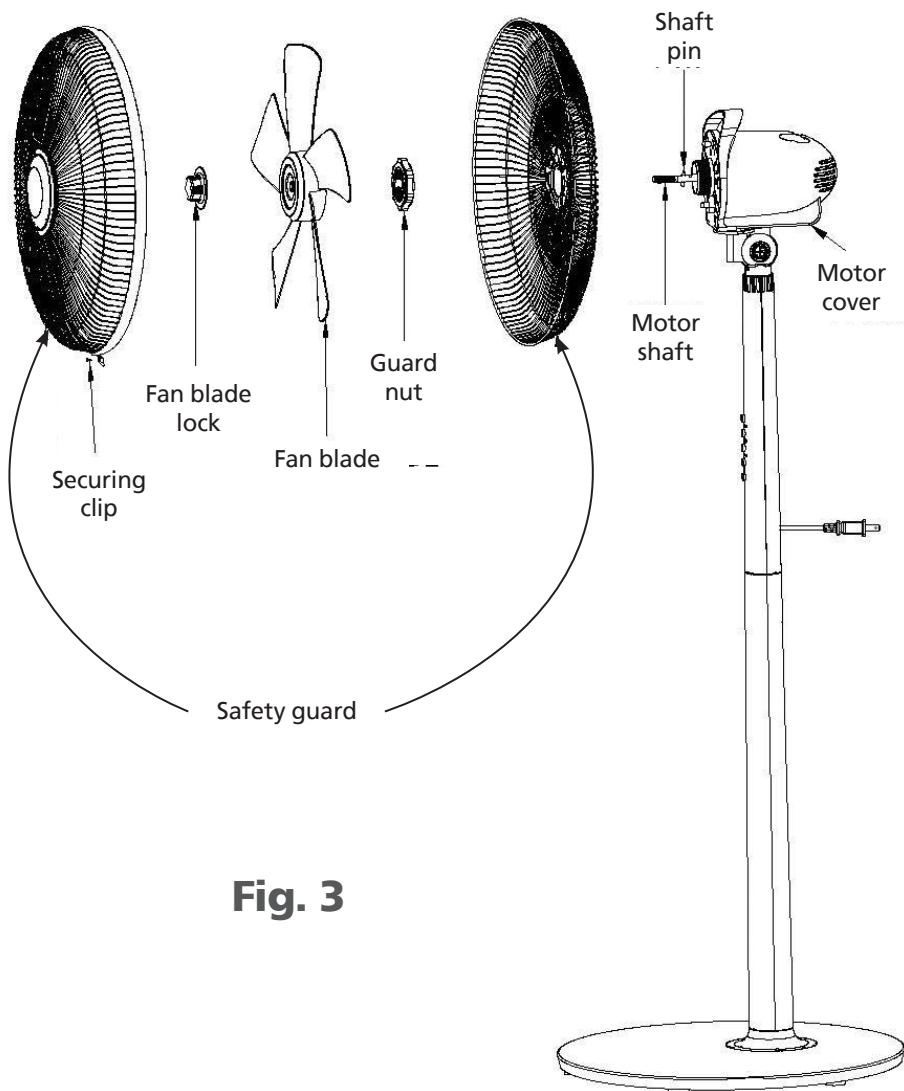

Fig. 3
1. Remove the fan blade lock and the guard nut from the motor shaft. Place the rear safety guard onto the shaft pin. Tighten the safety guard with the guard nut at the motor (Fig. 3).